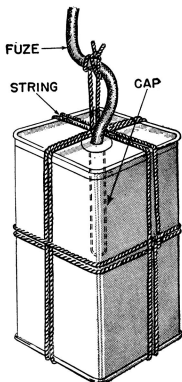

FIGURE 89.—Primer made of TNT block and nonelectric cap.
a. Primer of TNT or dynamite, with nonelectric cap and fuze.—Cut fuze off square with fuze cutter. See that no dirt is in the open end of the cap, then slip it over the fuze as far down as it will go. Hold the fuze in one hand and crimp cap to fuze with cap crimper, making crimp near open end of cap. Next, put cap with fuze attached into the hole in TNT block or dynamite stick (figs. 89, 90, and 91). The twine holding the cap in place must be tied so that when the fuze is pulled, the twine takes the pull and the cap is not moved in the hole.